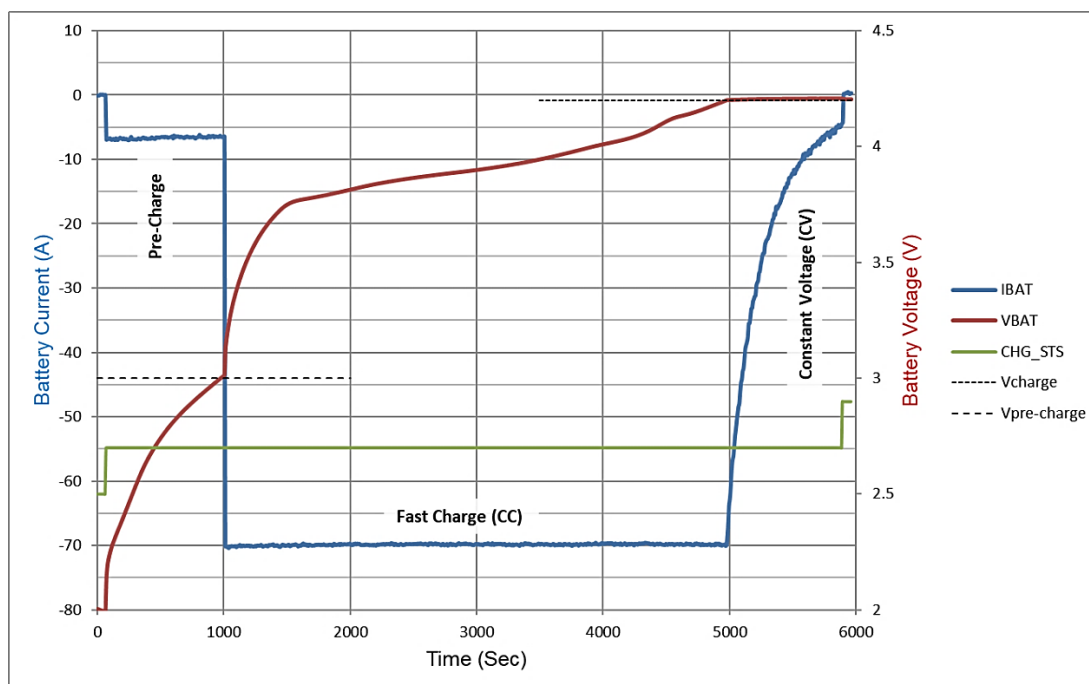

Figure 31: Example 70 mAH Charge Cycle
Charging current operates in three regions based on battery voltage: pre-charge, fast charge (CC), and constant voltage (CV). These regions are shown in the typical charging example of Figure 31. The charge status (CHG_STS) is also shown transitioning from the 'charge ready' to 'charge in-progress' to 'charge done' states.